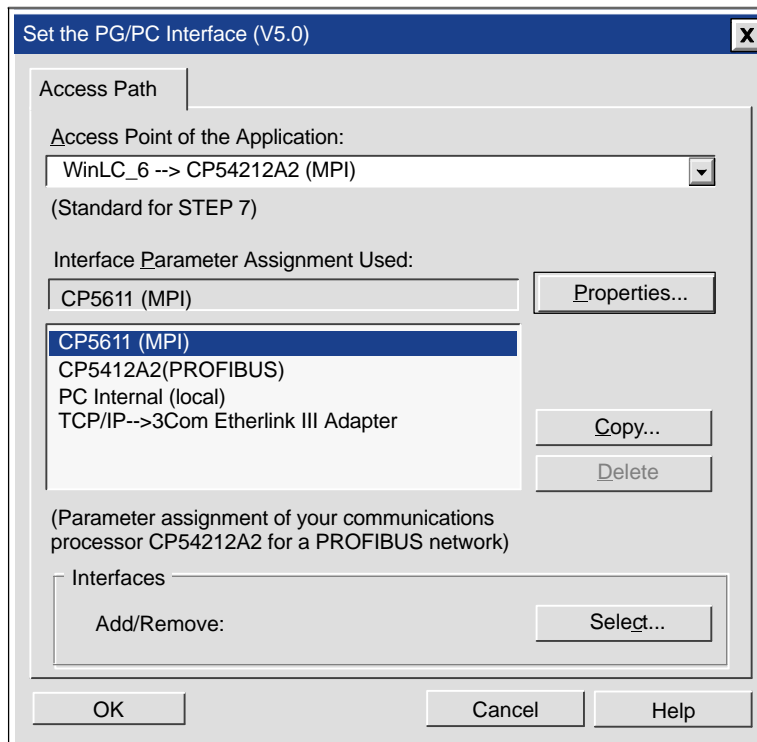

Figure 3-4 Setting the PG/PC Interface for the CP Card
3. As shown in Figure 3-4, select the interface parameter from the parameter set that corresponds to your network communications path. For example: